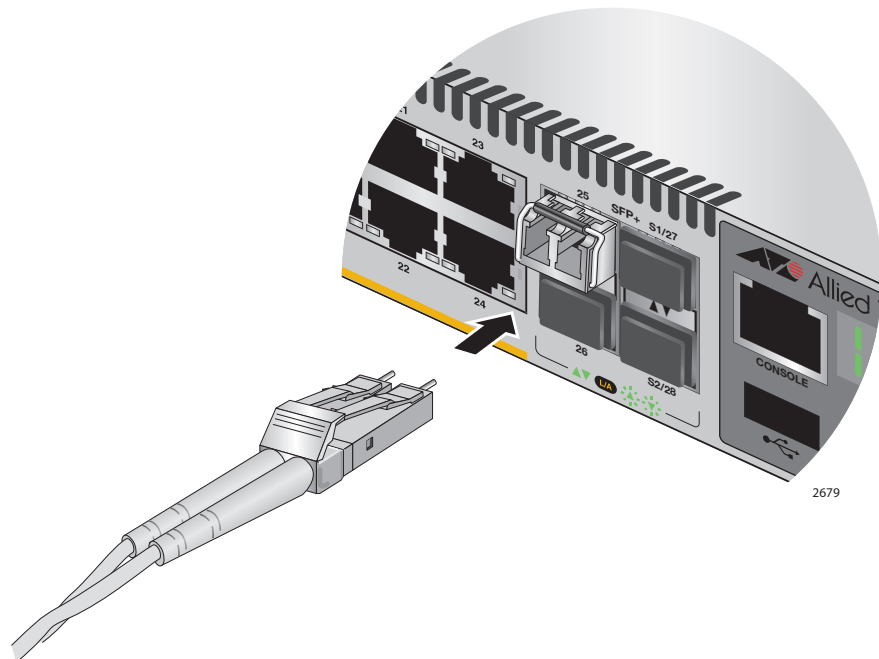

Figure 68. Connecting a Fiber Optic Cable to an SFP or SFP+ Transceiver
7. Connect the fiber optic cable to the transceiver, as shown in Figure 68. The connector on the cable should fit snugly into the port, and the tab should lock the connector into place.